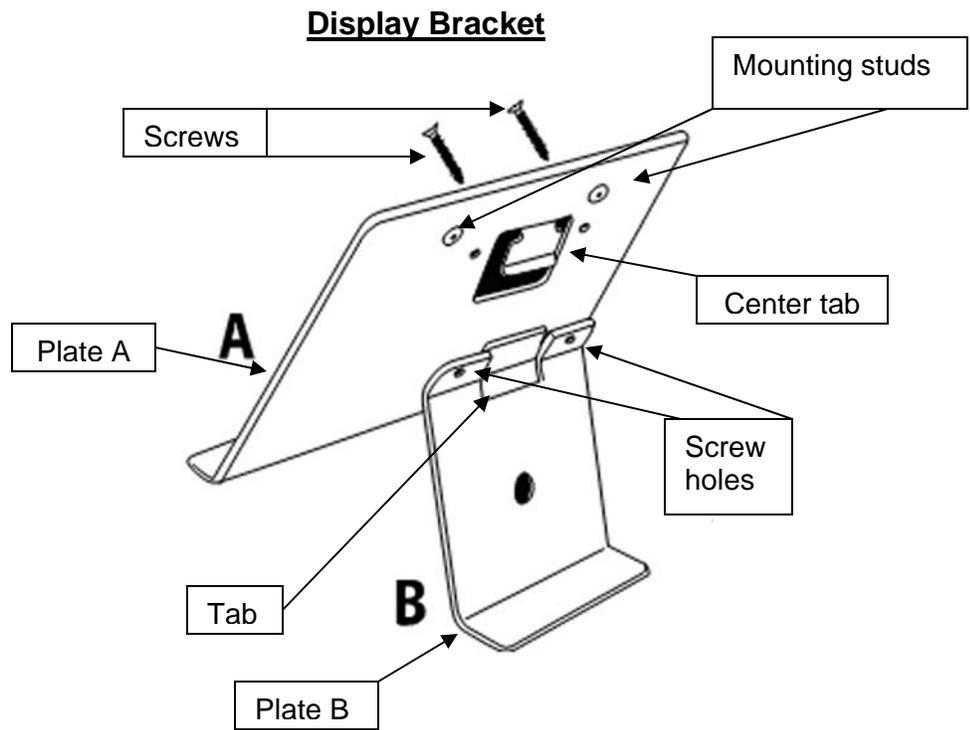

Figure 1
Assembling the 349KLX Scale (Refer to Figures 1- 4)
3. Remove the display bracket from the carton (see Figure 1).
4. Remove the two small screws from plate B (see Figure 1).
5. While holding plate A, slide the tab of plate B up and under the center tab on the back of plate A (see Figure 1).
6. Align plate A and plate B, and ensure that the screw holes are lined up (see Figure 1).
7. Insert the two small screws into the front of plate A and through the holes in plate B (see Figure 1).
8. Using a Phillips head screwdriver, tighten the screws to secure plate A to plate B (see Figure 1).
9. Slide the two mounting studs on the display bracket into the two mounting holes in the back of the display assembly (see Figures 1 & 4). The display bracket is now ready for use.